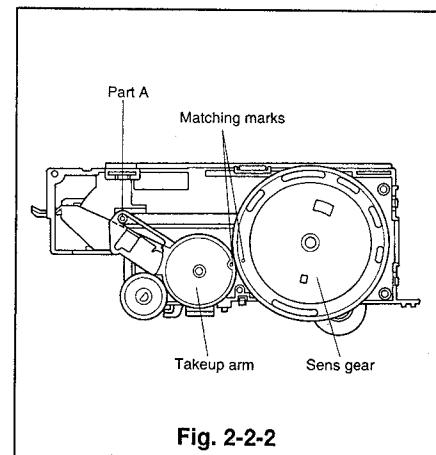

Fig. 2-2-2
- ⑧ Shift the bottom plate back to the eject position and install the sens gear so that the matching marks of the sens gear and the takeup arm align as shown in Fig. 2-2-2.
⑨ Install the side plate.
⑩ Install the cassette housing.